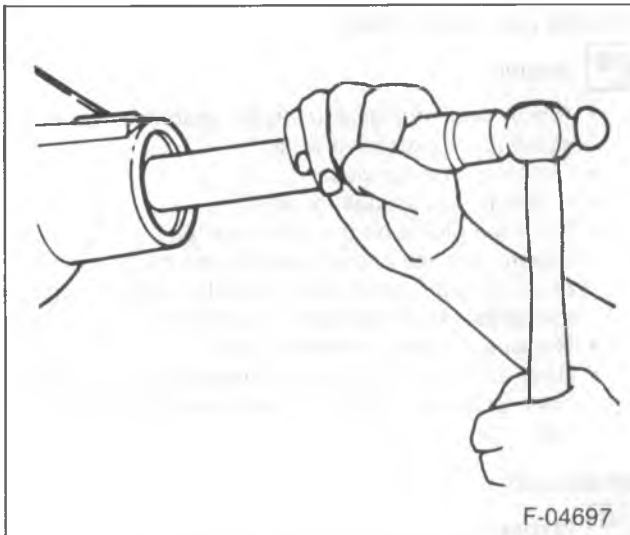

Figure 9—Installing Front Pinion Bearing Cup
1. Front pinion bearing cup using J 8611-01 and J 8092 (figure 9).